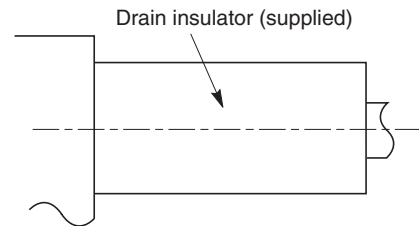

Fig. 1-52
- After checking the drainage, wrap the supplied packing and drain pipe insulator around the pipe. (Fig. 1-52)